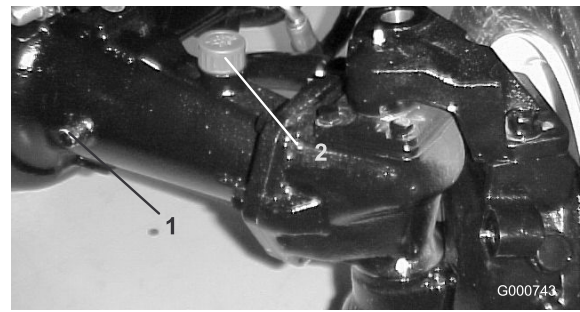

Figure 67
2. Remove a check plug (Figure 67) from one end of axle and make sure lubricant is up to bottom of hole. If level is low, remove the fill plug (Figure 67) and add enough lubricant to bring the level up to the bottom of the check plug holes.